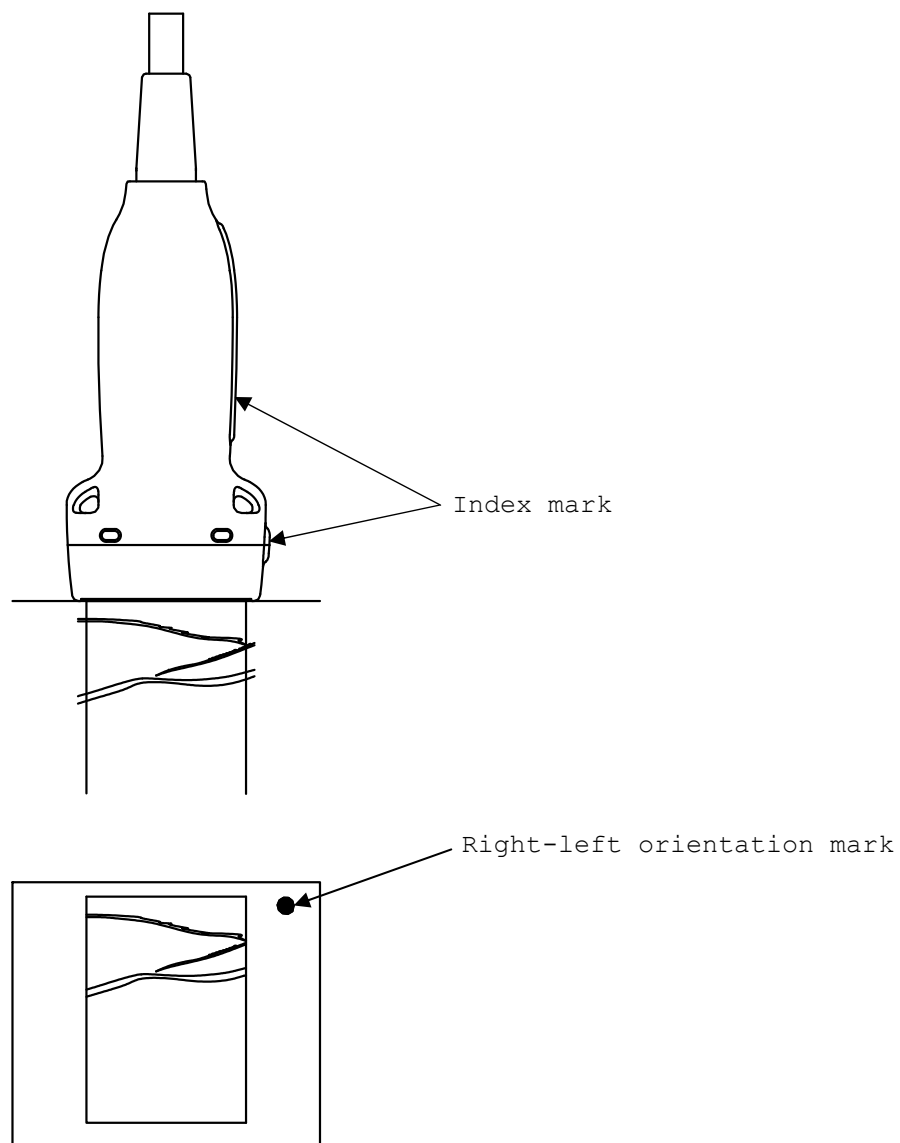

Fig. 2 Relationship between the direction of the probe and the Right-left orientation mark
- 3) Confirm the direction of the probe. The relationship between the direction of the probe and image is shown in Fig. 2. The Right-left orientation mark on the image indicates the direction of the index mark of the probe.